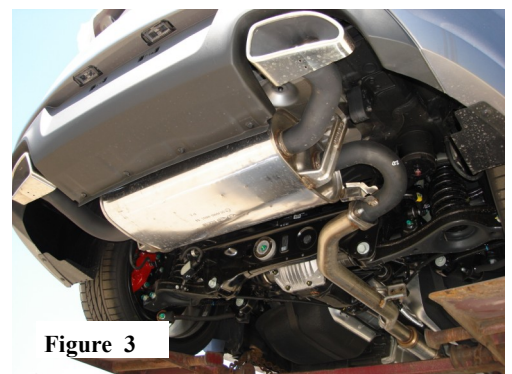

Figure 3
4. Using a muffler stand or an additional person to hold the rear muffler into position, remove the hangers from the rubber isolators and remove the rear muffler from the vehicle. (See Fig. 3)